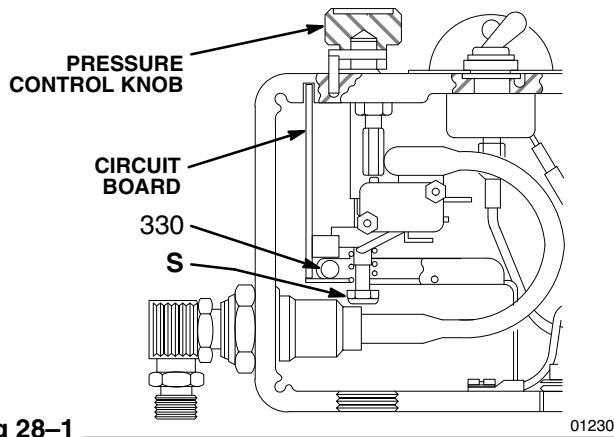

Fig 28-1
**NOTE:** Refer to Fig 28-1 and 28-2 for this procedure.
3. Turn the pressure control knob to the minimum setting to release spring tension on the board. Check to be sure only three or four threads of the pressure control knob shaft are exposed below the pressure adjustment nut (S). Loosen the nut, if necessary.